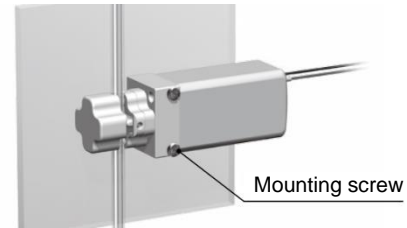

Figure 2
- There are 2 patterns of mounting. See Figure 1 and Figure 2.